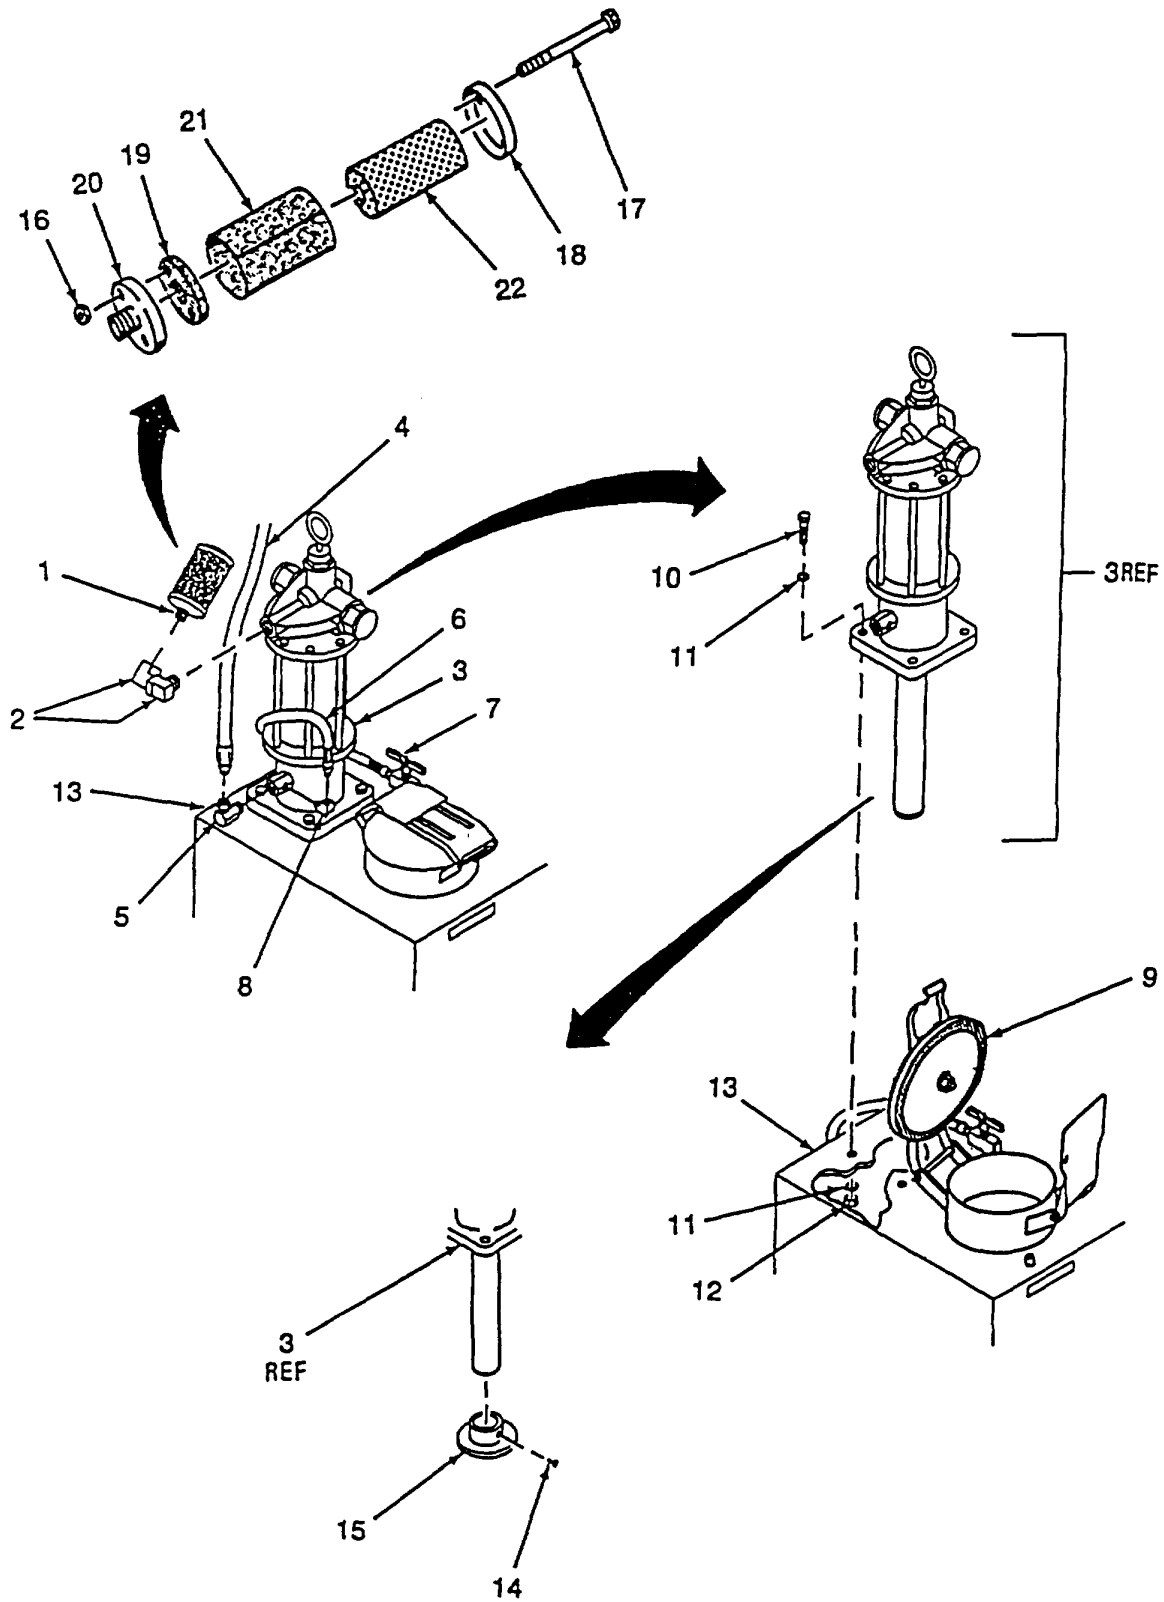

Figure 4-42. Low and High Pressure Pumps and Pump Mufflers
a. Removal. (Refer to Figure 4-42).